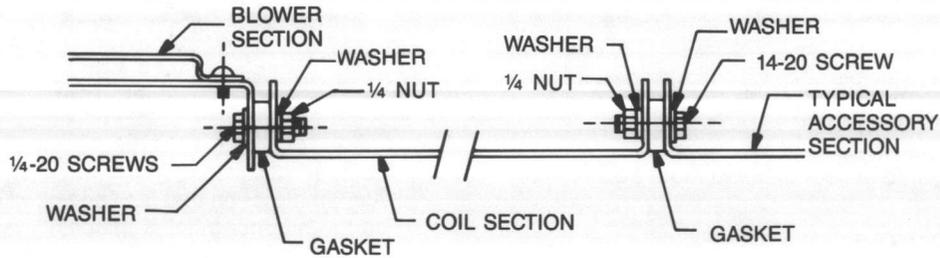

FIGURE 4.
- d. Bolt through the accessory or blower section (as shown in Figures 4 through 15) into the nut clips in the coil section with $\frac{1}{4}$ "-20 bolts.